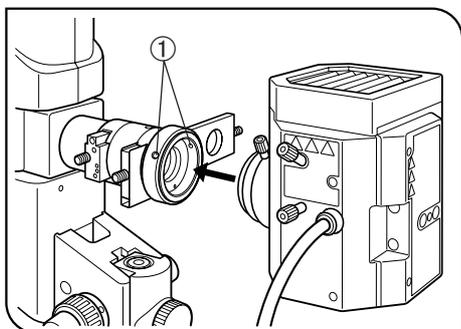

Fig. 44
1. Using the Allen screwdriver, loosen the two clamping screws ① on the lamp housing mount hole.
2. Fit the lamp housing all the way as shown in Fig. 44.
3. Tighten the clamping screws ① using the Allen screwdriver.